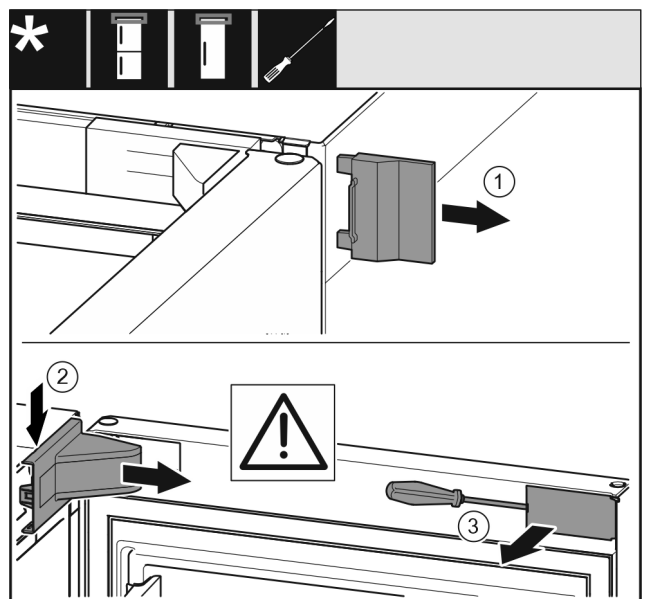

Fig. 11
- ▶ Remove the outer cover. *Fig. 11 (1)*
- ▶ Disengage and release the bearing bracket cover. Remove the bearing bracket cover. *Fig. 11 (2)*
- ▶ Unlatch the panel with a slotted screwdriver and swivel it to one side. *Fig. 11 (3)*